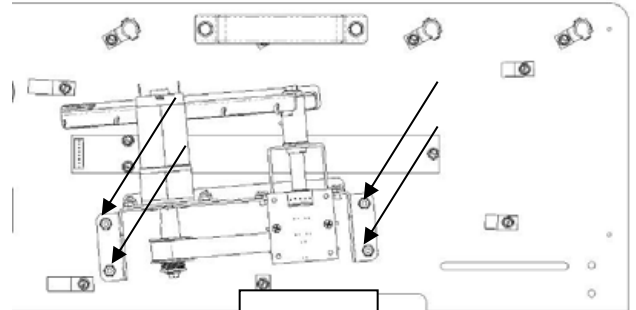

Figure 1
3. If the tip of the magnet core is not .90" off the roof of the "Tank", then adjust the nuts on the back of the unit. See Figure 1 for nut locations.
6. If the tip of the magnet core is not in between 1.09" and 1.14" from the floor of the ramp, then tighten or loosen the nuts on the back of the unit until it is in the middle. See Figure 1 for nut locations.